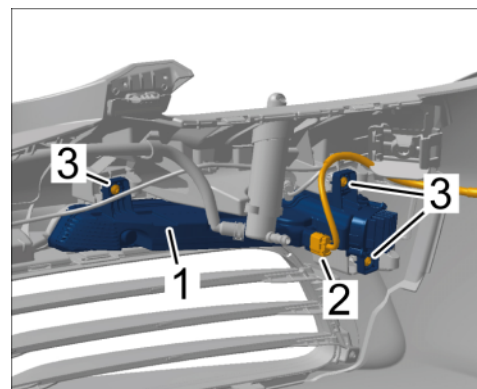

Figure 26
5.7.4 Unscrew screws ⇒ *Figure 26 -3-* and remove auxiliary headlight ⇒ *Figure 26 -1-*.